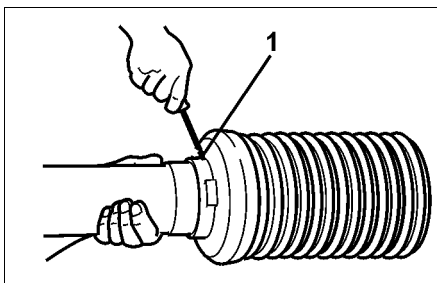

Fig. 24
- Remove fixing bolt (Fig. 24/1)